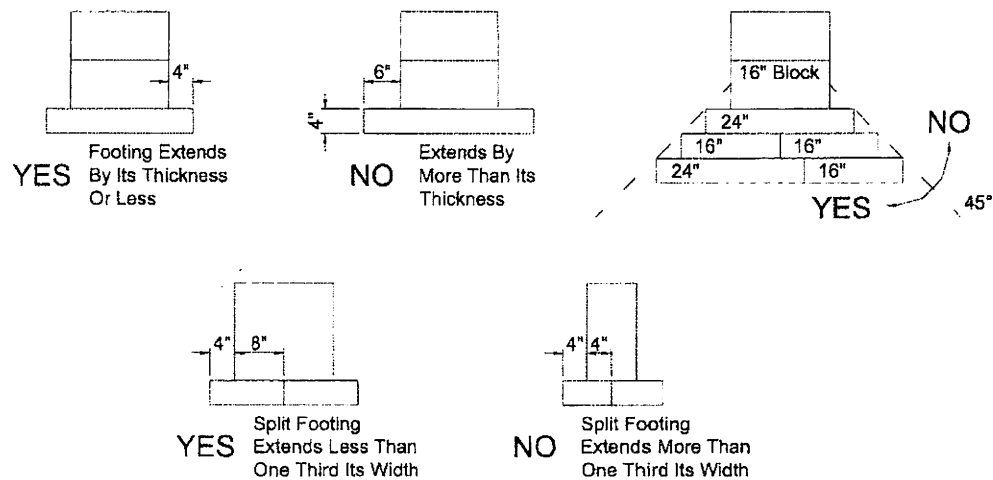

Figure 14
- Design footings with a footing extension (projection beyond the base of the pier) no greater than the footing thickness (Figure 14). Increase footing thickness if necessary.